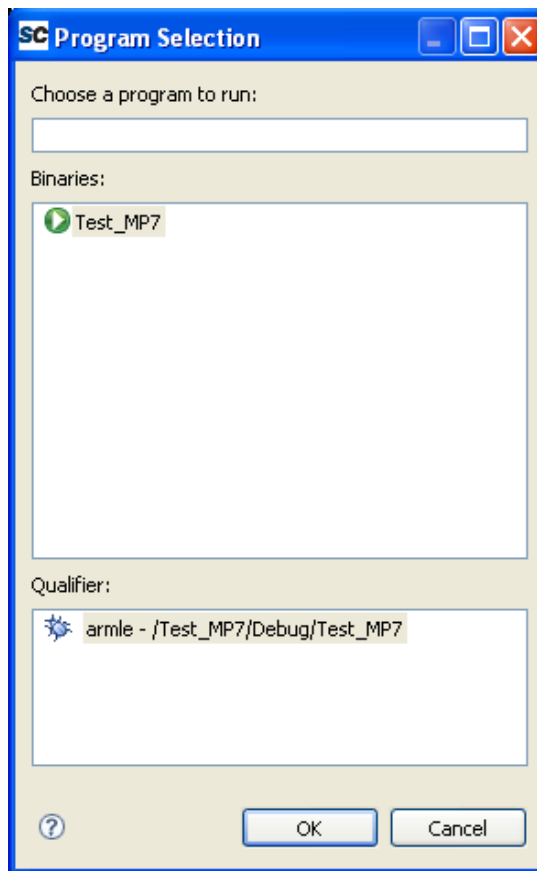

Figure B-3 · Program Selection
11. Click the name of your project in the Binaries box (Figure B-3).